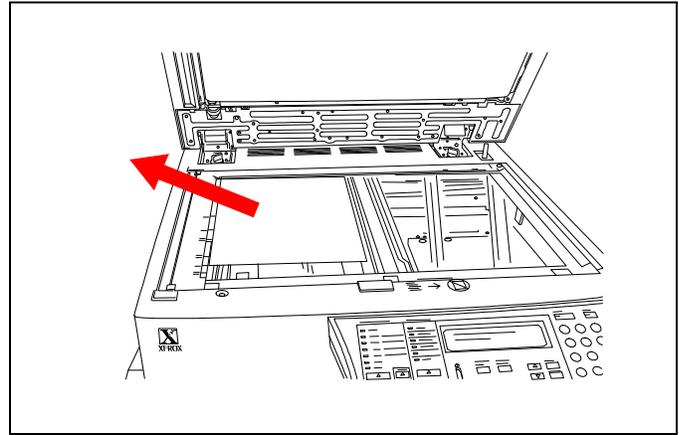

Figure 16
4. See Figure 16. Raise the ADF and remove any documents from the platen glass.